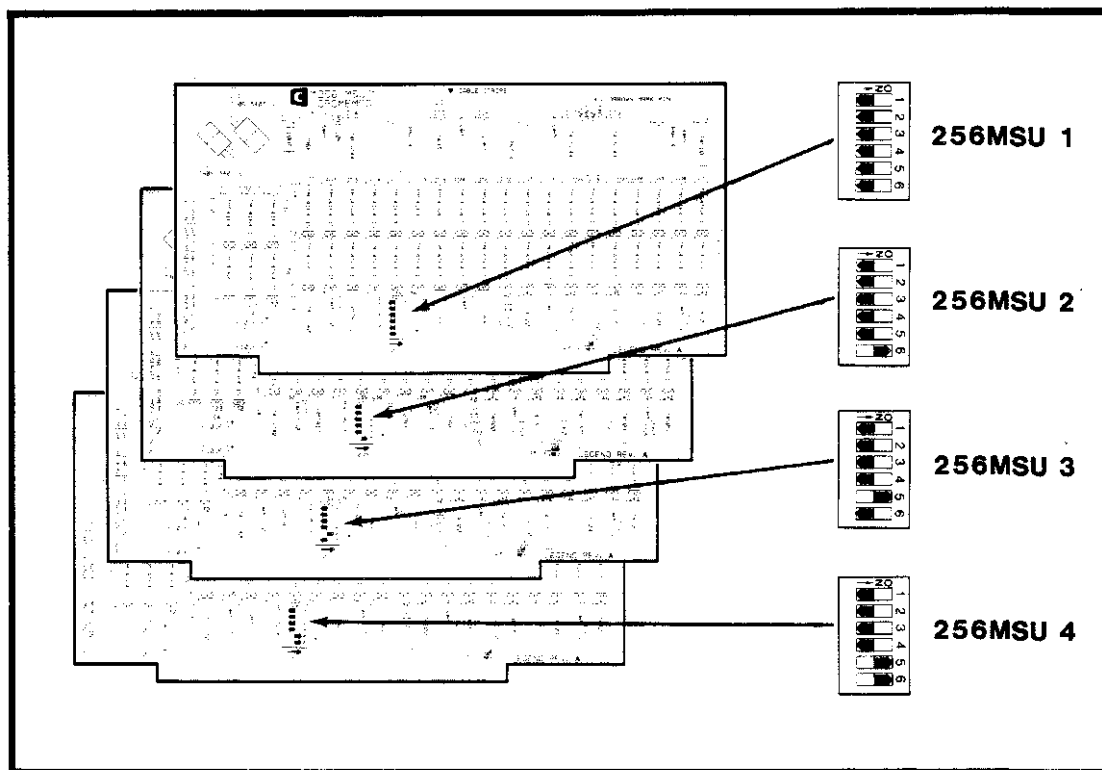

**Figure F-4: SWITCH SETTINGS FOR 256KZ BOARDS
**256KZ Board** - This is a Random Access Memory board with 256K bytes of memory. One of these boards comes with models CS-3D2 and CS-3HD2. Figure F-4 shows the proper switch settings for 256KZ boards in a Z80-based system. Figure F-5 shows the proper switch settings for up to four 256KZ boards in a 68000-based system. If more than four 256KZ boards are used, refer to the 256KZ manual for the proper switch settings.